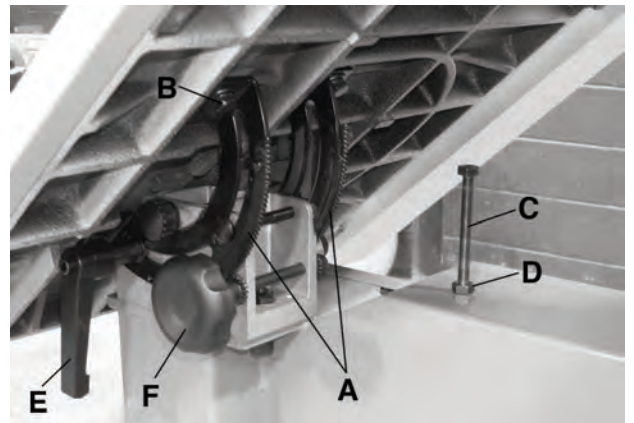
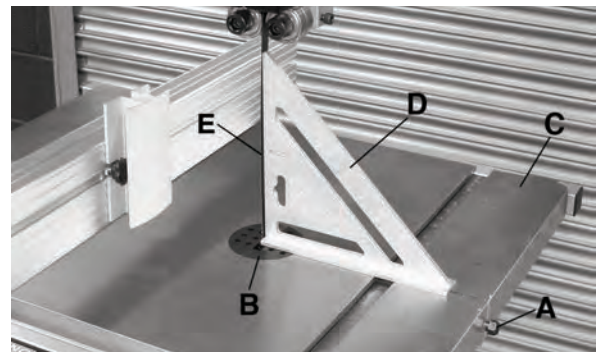

FIGURE 3
FIGURE 4
1. To mount the table (C) Fig.4, remove table insert (A) Fig.4 and table pin (B) Fig.4 from the table.
2. Slide the blade through the table and place the table onto the trunnions (A) Fig.3, line up the 4 mounting holes and fix table to the trunnions using spring washers and hex. bolts (B) Fig.3, then replace table insert and table pin.
3. Loosen lock handle (E) Fig.3 and turn the micro-adjustment knob (F) Fig.3 to tilt the table (as shown in Fig.3), retighten lock handle. Install the 90° stop bolt and nut (C & D) Fig.3 to the main frame. Lower the table until it rests against the 90° stop bolt.
4. Place a square (D) Fig.4 on the table and up against the blade (E) Fig.4 to see if the table is 90° to the blade. If the table is not 90°, an adjustment to the 90° stop bolt and nut (C & D) Fig.3 is needed.
5. Loosen lock handle (E) Fig.3 and turn the micro-adjustment knob (F) to position table at 90°. Loosen hex. nut (D) Fig.3 and adjust the height of the 90° stop bolt (C) Fig.3 as needed. After the adjustment, retighten the hex. nut (D) Fig.3 and re-adjust the position the angle pointer (under the trunnion) to 0°.